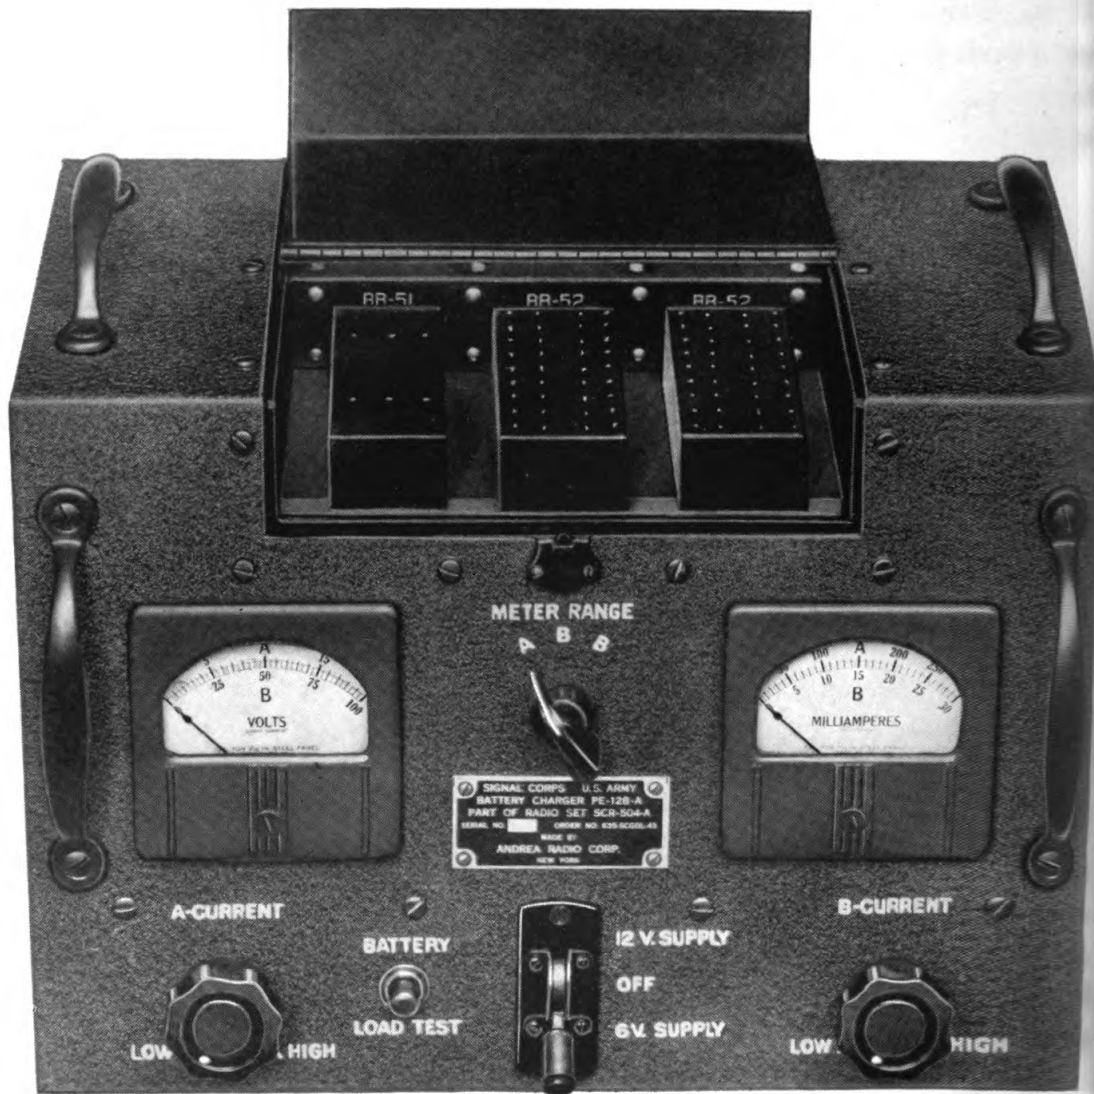
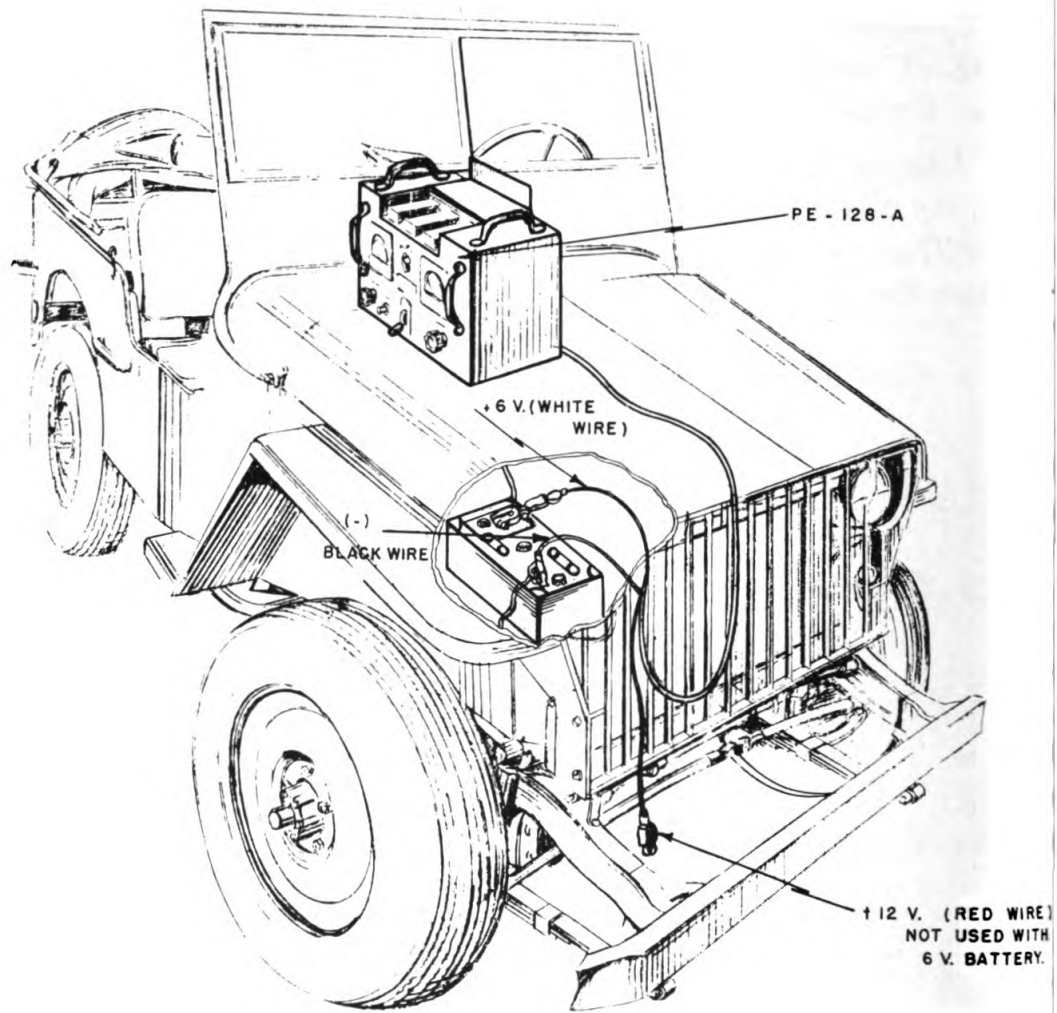

Figure 9. Battery Charger PE-128-A, Front View, Top Open, Batteries in Place
Figure 17. Battery Charger PE-128-A Connected to "Jeep" Battery
17. Operation of Battery Charger PE-128-A (figure 9).— To operate Battery Charger PE-128-A a vehicular storage battery of either 6 or 12 volts is needed for a supply. If no separate battery is available, connection may be made to one installed in a vehicle (see figure 17). If this is necessary, remember that the terminal voltage of the vehicular battery rises considerably when the motor is running and, consequently, you must readjust the A-CURRENT and B-CURRENT controls to restore the currents to the proper values.
- (4) Connect clip marked (—) to negative or minus side of vehicular battery. **CAUTION: If you get these battery connections reversed you probably will blow the primary circuit fuse in the PE-128-A.**
- (5) Connect clip on white wire marked + 6 to + 6 volts on the vehicular battery. The red wire is not used unless you connect to a 12-volt battery (figure 17).
- (6) If a 12-volt battery is used instead of a 6-volt, connect the red wire marked + 12 to + 12 volts on the vehicular battery. The white wire is then not used.
- (7) Plug the BB-51 and the two BB-52 batteries into the proper receptacles of the battery compartment. Leave the lid open.
- (8) Throw SUPPLY switch to the position corresponding to the supply voltage you are using. **This is important.**